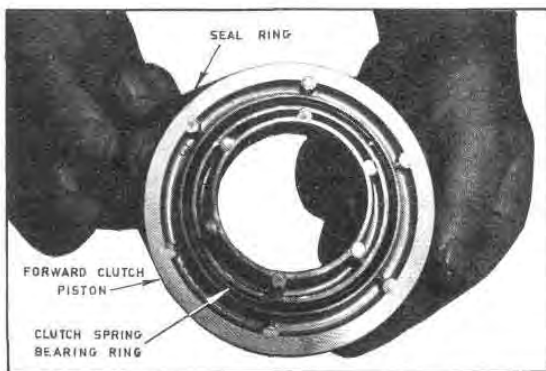

Fig. G59 — Forward Clutch Piston Components
17. Assemble the clutch spring bearing ring and a lubricated clutch ring on the forward clutch piston. (Figure G59).